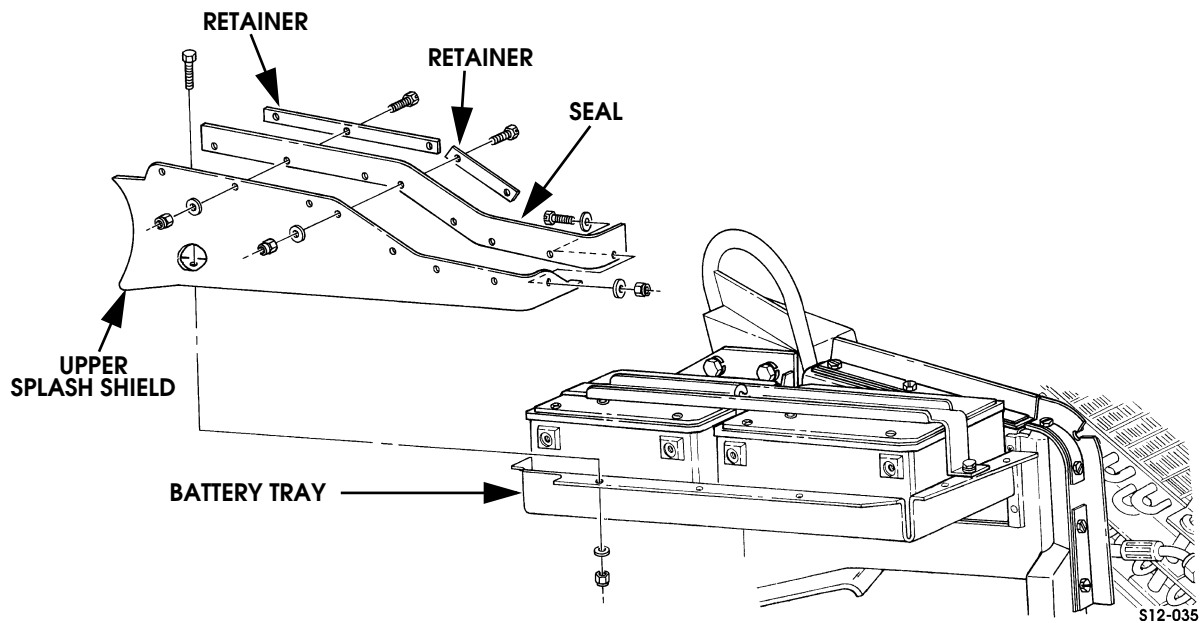

Figure 12-32: Upper Splash Shield Attachment
1. Remove upper splash shield and seal (Figure 12-32).